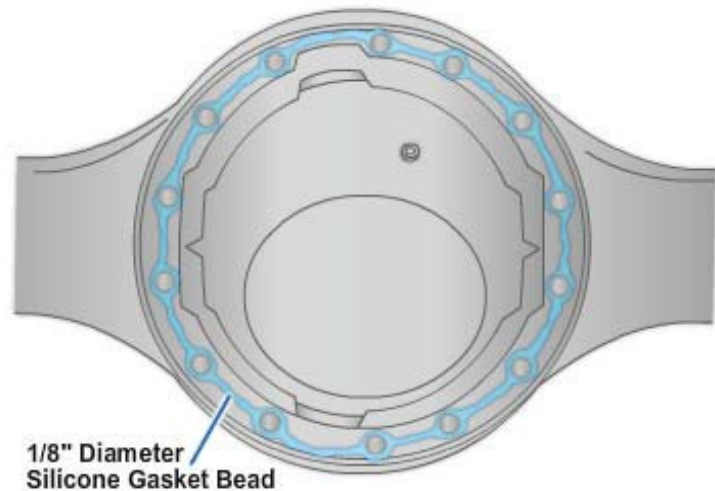

Figure 8-90 - Application of silicone gasket material to the mounting surface of the axle housing.
5. Apply silicone or a gasket (depending on OEM recommendation) to the mounting flange of the banjo housing, as shown in *Figure 8-90*.